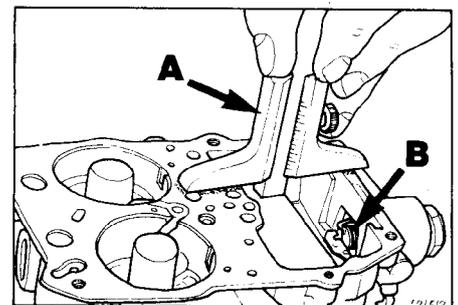

Fig. 8 Checking float level
- e) Using a depth gauge, measure distance from gasket face to top of float (A, Fig. 8).
- f) If necessary, adjust by bending tab (B) on float arm.